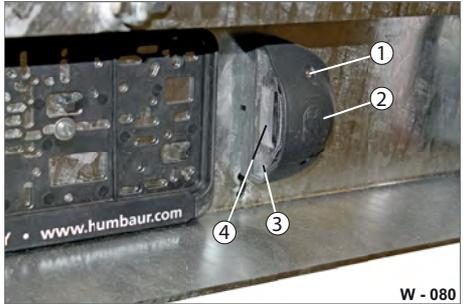

Fig. 78 Licence plate light 24 V
- ▶ Loosen the fixing screws (Fig. 78/1).
- ▶ Open the lamp carefully (Fig. 78/2).
- ▶ Remove the light lens (Fig. 78/3).
- ▶ Replace the lamp (Fig. 78/4).